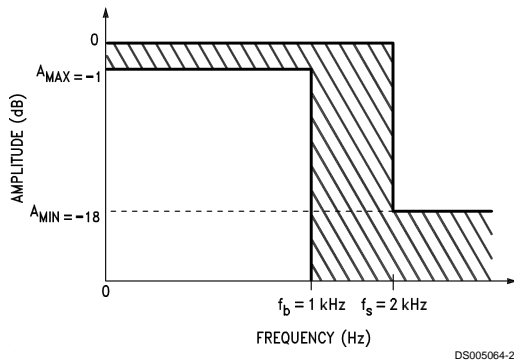

FIGURE 8. Design Example Magnitude Response Specification where the Response of the Filter Design must fall within the shaded area of the specification
Suppose the amplitude response specification in Figure 8 is given. Can the MF4 be used? The order of the Butterworth approximation will have to be determined using Equation (1):
This result also meets the design specification given in Figure 8 again verifying that a single MF4 section will be adequate.